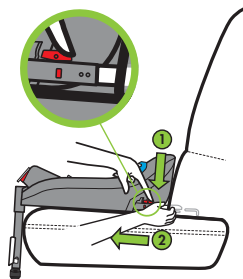

Figure 52
Release the UAS Connector by pressing down (1) and sliding back (2) the red UAS Release Button, as shown in **Figure 52**. When the Connector releases, the indicators will turn from green (locked) to red (unlocked).